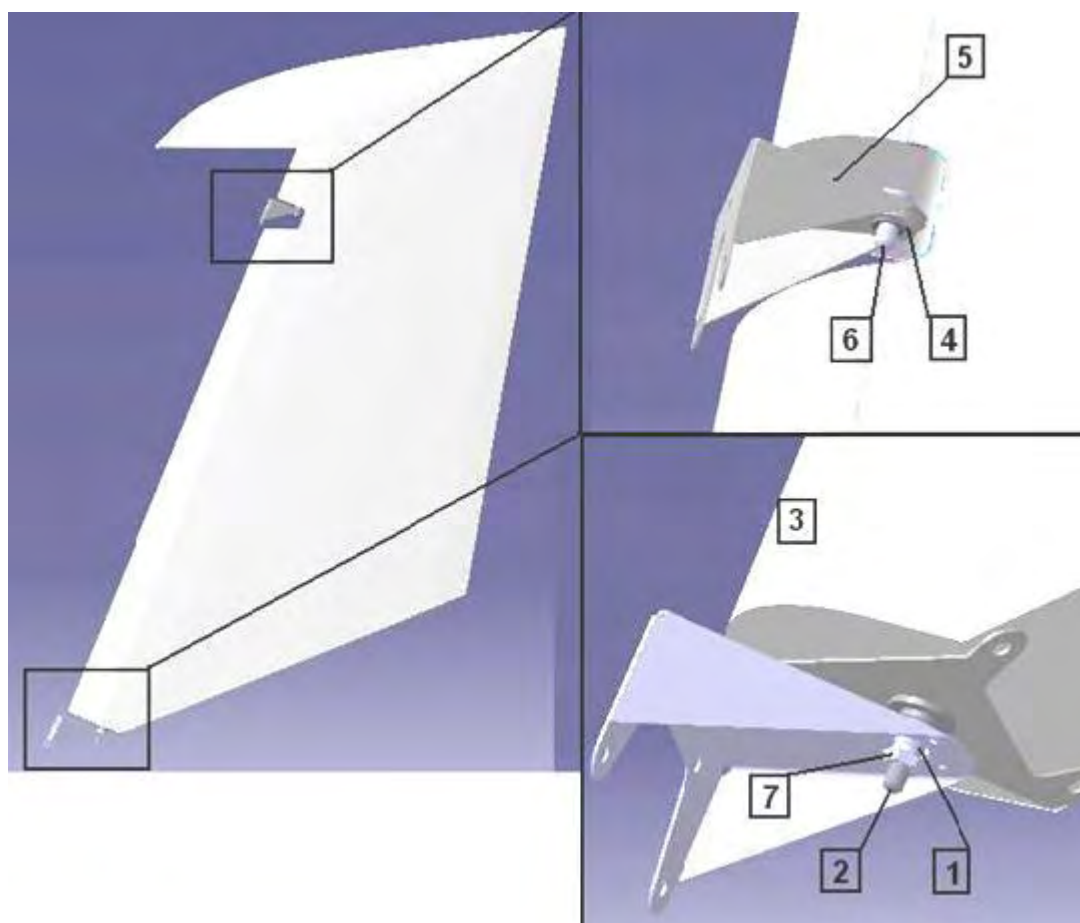

Fig. 1
Match the hole in the bearing of the bracket KA3020030 (1) with the pin KA3020022 (2) of the rudder lower support KA3020020 (3). Match the hole of the slider bearing MFM-0610-06 (4) of the upper bracket KA3020010 (5) with the pin KA3020512 (6), Fig. 1.